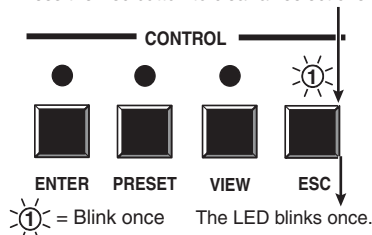

Figure 3-52 — Clear all selections
1. Press and release the Esc button (figure 3-52).